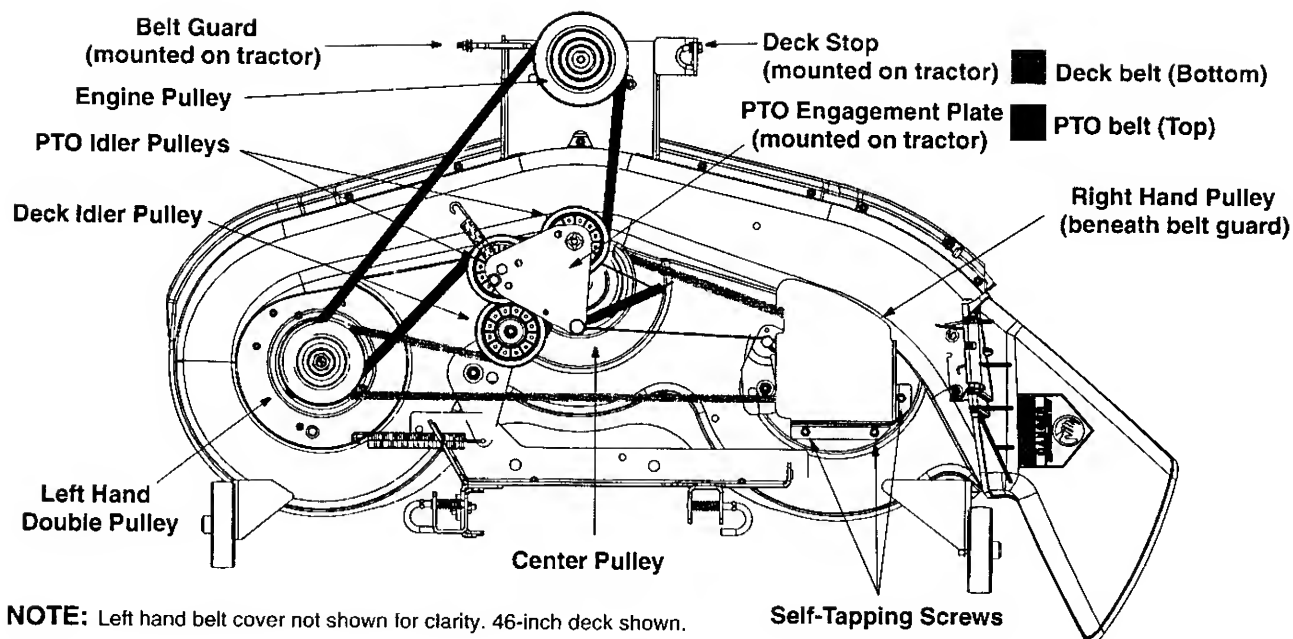

Figure 18
- Remove the PTO belt from around the bottom portion of the engine pulley and from around the two PTO idler pulleys found on the PTO engagement plate. See Figure 18.
- Route the new belt as shown in Figure 18, around the upper portion of the left hand deck pulley, PTO idler pulleys and the lower portion of the engine pulley. OEM belt part numbers are listed in the table on the following page.